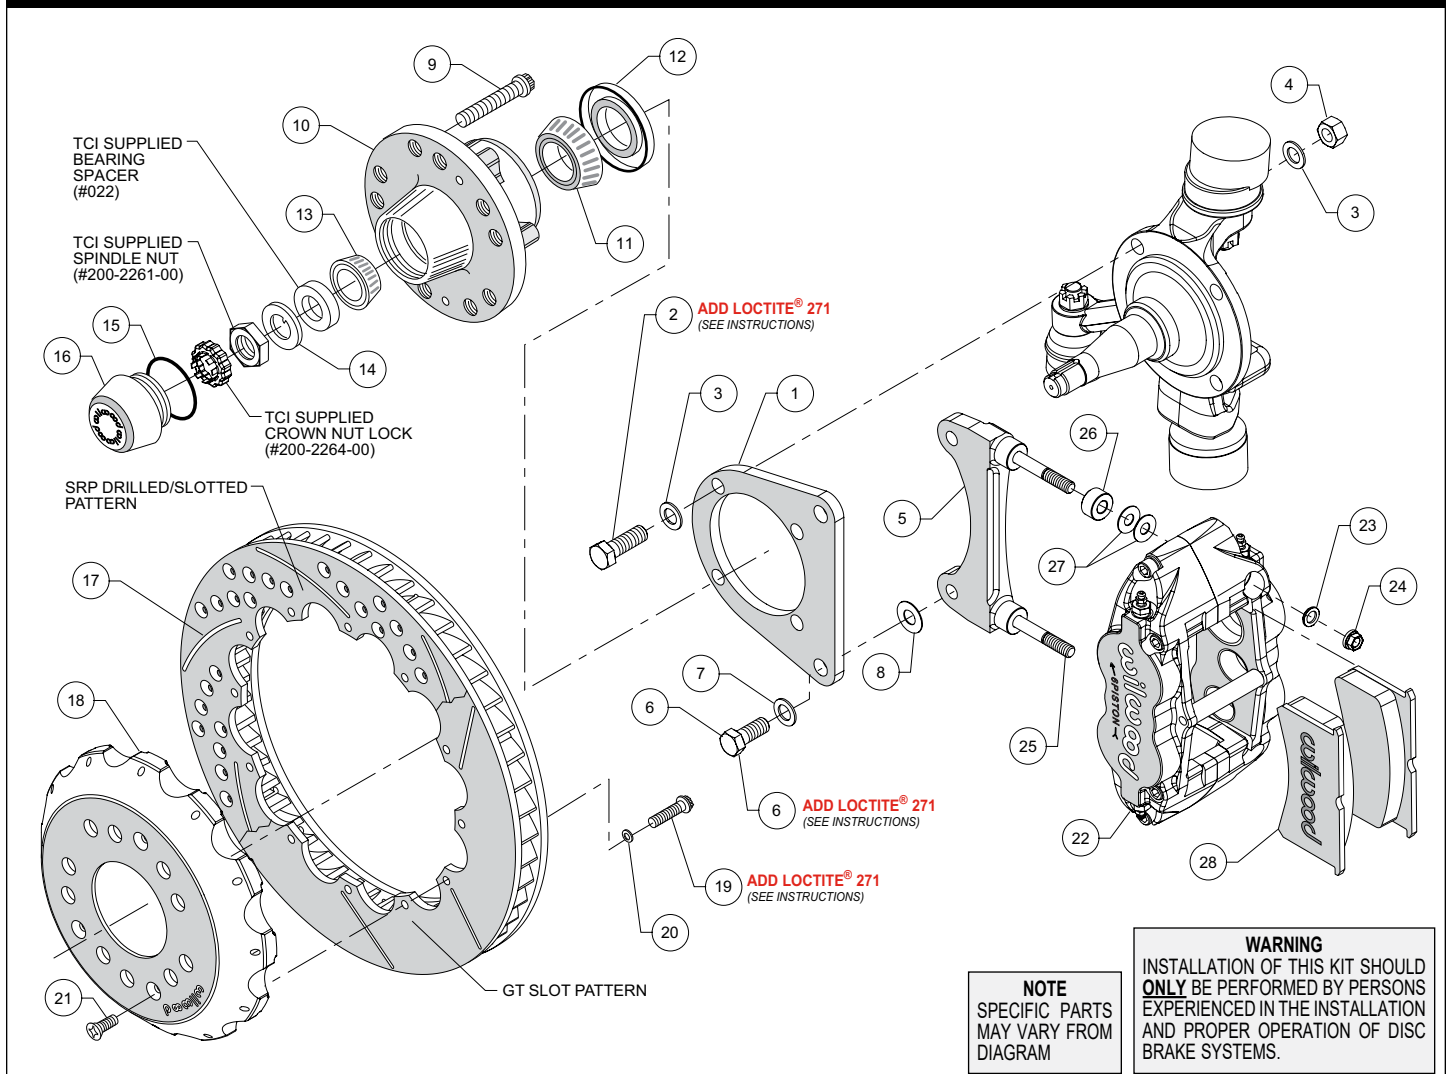
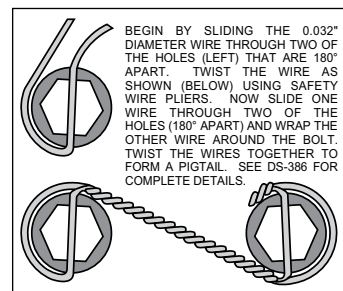

Figure 1. Typical Installation Configuration
Figure 3. Safety Wire Diagram
NOTE: Numbers in parenthesis refer to the parts list and Figure 1 on the preceding pages.
- Orient the flat bracket (1) as shown in Figure 1, and Photo 1, and install using bolts (2), washers (3), and nuts (4). **NOTE:** The two lower mount bolts thread directly into the steering arm. Temporarily tighten the mounting bolts. **NOTE:** The bracket must fit squarely against the spindle face. Inspect for interference from casting irregularities, machining ridges, burrs, etc. After the bracket alignment has been checked, remove the bracket mounting bolts (or nuts) one at a time and apply red *Loctite*® 271 to the threads. Torque bolts to 77 ft-lbs.
- The radial mount caliper bracket (5) should initially be installed with clean, dry threads on the mounting bolts. Orient the bracket as shown in Figure 1, and Photo 2, and install using bolts (6), and washers (7). Initially place one .029" thick shim (8) on each bolt between the flat bracket (1) and radial mount caliper bracket (5), Figure 1. Temporarily tighten the mounting bolts. Later, after the caliper alignment has been checked, the mount bolts will be secured using red *Loctite*® 271.
- Install wheel studs (9) into the hub (10), Photo 3. Torque to 77 ft-lb. **NOTE:** There are two five lug patterns in the hub (5 x 4.50 and 5 x 4.75). Ensure the correct hub stud pattern is being used to fit the wheel application.
- Pack the large inner bearing cone (11) with high temperature disc brake bearing grease (available from your local auto parts store) and install into the backside of the hub (10), Photo 4.
- Install the grease seal (12) by pressing into the backside of the hub (10), flush with the end of the hub, Photo 4.
- Pack the small outer bearing cone (13) with high temperature disc brake bearing grease and install into hub (10), Photo 5. Slide the hub assembly onto the spindle. Install TCI supplied bearing spacer (#022). Secure using spindle washer (14) and TCI supplied spindle nut (#200-2261-00). Bearing adjustment: Tighten the nut while turning the hub. When there is a slight bind on the bearings, they are seated correctly. Back the nut off about 1/6 to 1/4 of a turn, or sufficiently to allow .001" to .007" end play. **WARNING:** Failure to back off adjusting nut could cause bearing to run hot and be damaged, which could cause the wheel to lock or come off. Install TCI supplied crown nut lock (#200-2264-00) and a new cotter pin (not included).
- Orient the rotor (17) and the hat (18) as shown in Figure 1 and Photo 7. Attach rotor to hat using bolts (19) and washers (20). Apply red *Loctite*® 271 to the bolt threads and torque to 155 in-lb using a criss-cross pattern. For an added measure of security, the bolts may be safety wired using standard 0.032 inch diameter stainless steel safety wire as shown in Figure 3. Please refer to Wilwood's data sheet DS-386 (available at www.wilwood.com/Pdf/DataSheets/ds386.pdf) for complete safety wire installation instructions.
- Slide the hat/rotor (17/18) onto the hub (10) taking care to align the small countersunk holes in the hat with the small threaded holes in the hub. **NOTE:** The hat must fit flush against the hub face or excessive rotor run out may result. Install three flat head screws (21) through the small holes in the hat (18), Photo 8, and torque to 85 in-lb.
- NOTE:** This kit contains distinct right and left hand calipers that must be mounted in a specific direction, as described below. Initially place two .035" thick shims (27) and one spacer (26) on each stud (25) between the caliper and the bracket, as shown in Figure 1 and Photo 9. Mount the caliper (22) onto the bracket (5) using lock nuts (24) and washers (23), Figure 1. Ensure that the caliper is mounted so the largest pistons are at the rotor exit end of the caliper, in relation to the direction of rotor rotation. Temporarily tighten the lock nuts and view the rotor through the top opening of the caliper. The rotor should be centered in the caliper, Photo 10. If not, adjust by adding or subtracting shims (8) between the flat bracket and the radial mount bracket. Always use the same amount of shims on each of the two mounting bolts. Once the caliper alignment is correct, remove the radial mount bracket bolts one at a time, apply red *Loctite*® 271 to the threads, and torque to 77 ft-lb.